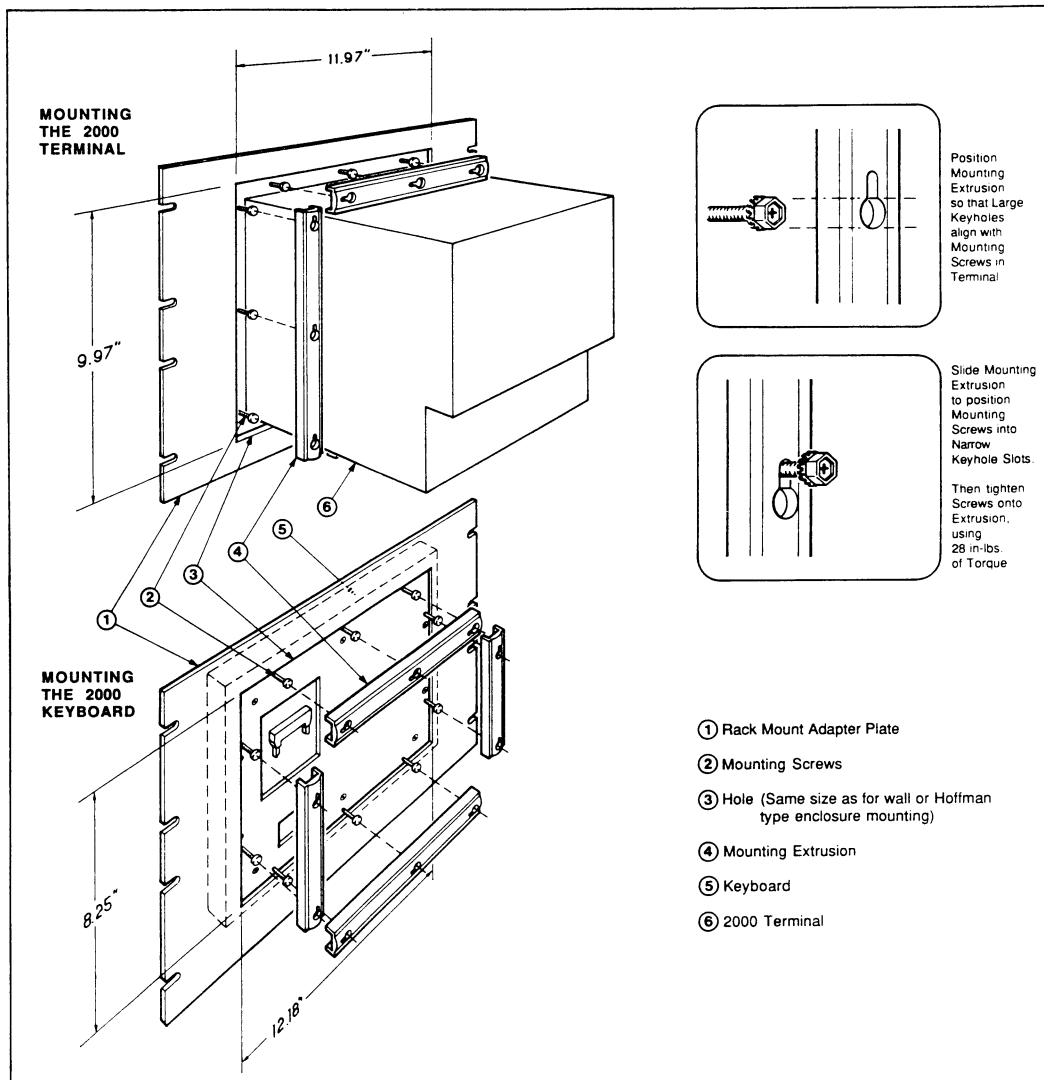

Figure 2-5. Mounting the 2000-SoftScreen and Optional Keyboard
3. Hold the workstation flush to the panel and secure it with the mounting extrusions, as shown in Figure 2-5 below. If you have an optional sealed keyboard, cut a hole 12.18" wide and 8.25" high under the hole for the 2000-SoftScreen Workstation.